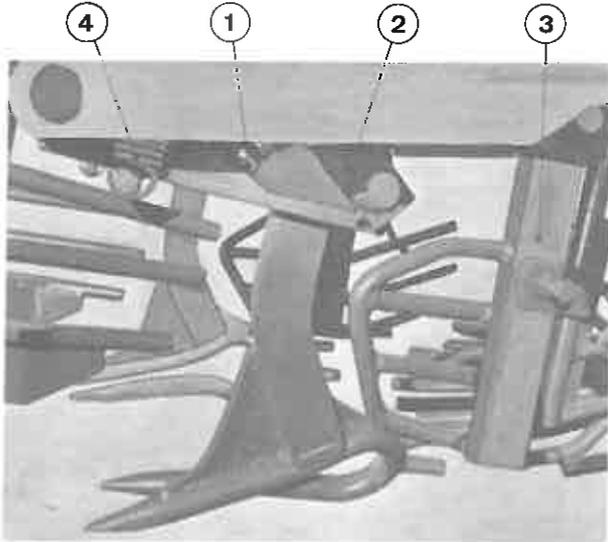

Fig. 3
**Stone Release Schare : (fig. 3)**
For digging on ground with many stones the machine is available with stone release shar. The holder for digger iron is embedded in front so that the digger iron swivels sloping backwards and upwards at collision with a ground-tied stone. The digger iron is kept in its place by a spring-loaded hinged joint (2 fig.3). The release pressure is controlled by the screw (1 fig. 3). If the screw is turned to the right the hinged joint is pressed longer away from the locking point and the release power is reduced. Intermediate rails (3 fig. 3) must be mounted in lateral direction so that there is space for the digger iron to swivel backwards.
When the stone release has functioned the machine is lifted right up. The spring (4 fig. 3) will then pull up the digger iron to its place again ready to go on.